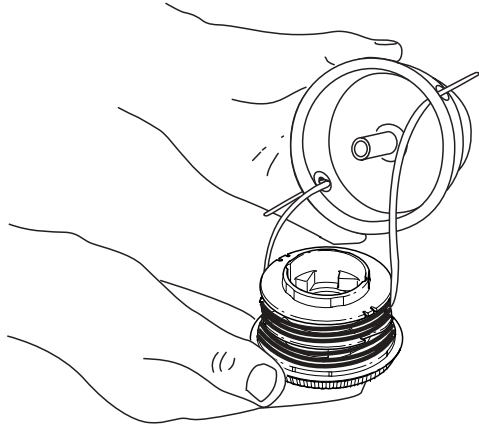

Fig. 43
3. Insert the ends of the prewound inner reel line into the outer spool eyelets (Fig. 43). Push the new inner reel, arrow side up, into the outer spool.
3. Pull the inner reel with existing line from the outer spool (Fig. 43).